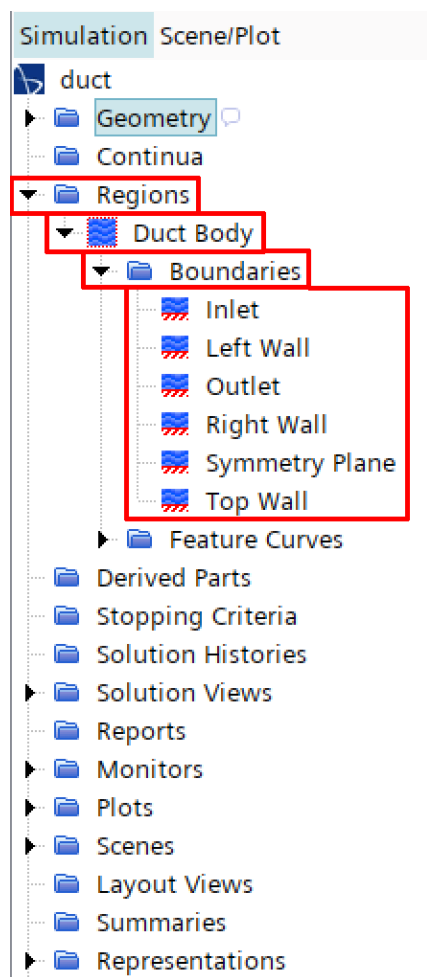

Figure 19: Boundaries created when assigning parts to regions.
8. To ensure you have correctly assigned parts to regions correctly, you can expand the **Regions** → **Duct Body** → **Boundaries** node. Each face named when creating the 3D-CAD model, should have been converted into a separate boundary as seen in Figure 19: